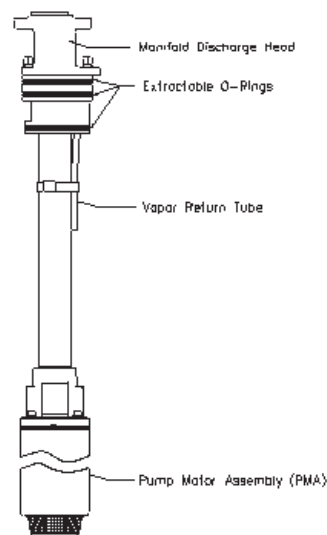
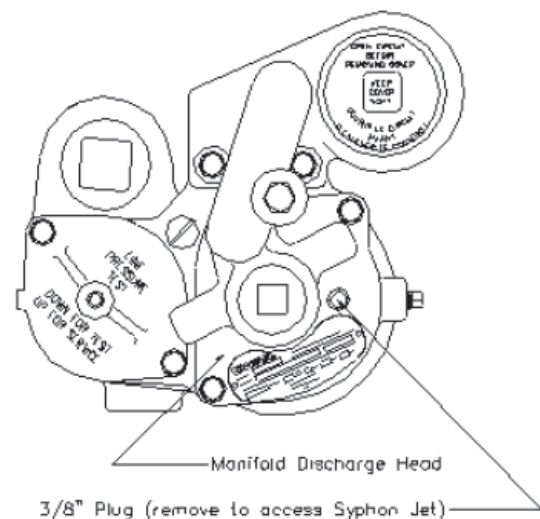

Figure 2
Figure 3
4. To remedy abnormal vacuum conditions, remove the 3/8" plug from the manifold discharge head (see Figure 3) and unscrew the brass Syphon Jet using a large standard screwdriver. Pull the Syphon Jet out and clean it, making sure that the Syphon Jet only allows for downward flow when installed. Before reinstalling the Syphon Jet, ensure that the Syphon Port and the Vapor Return Tube have open passages by using a stiff wire or other similar device to check. Replace or reinstall the Syphon Jet and 3/8" plug. Check for normal vacuum. If the passages are clear and the vacuum is still abnormal, check the STP Extractable O-rings for damage and make sure that the Vapor Return Tube is not pinched. To check the Vapor Return Tube, remove the STP Extractable and repair as necessary (see Figure 2). If the condition has been corrected, continue with the next step to test the remaining syphon system. If abnormal vacuum conditions continue, contact FFS Petro Technical Support.